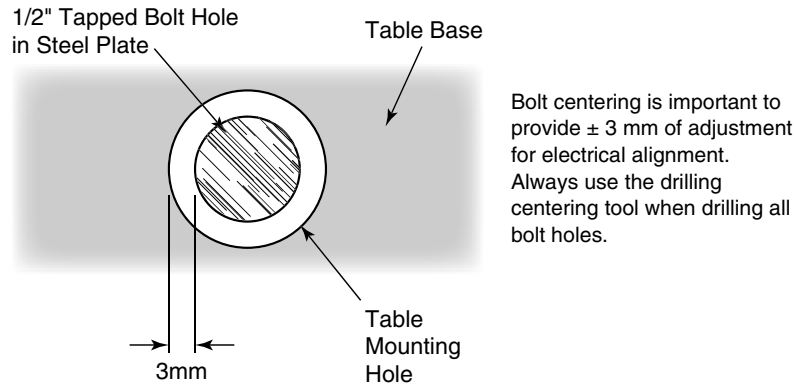

Figure 1-49 Center tapped holes under mounting holes in table base
- 3.) Fixed site Installations must be centered under mounting holes in table base, with 3 mm (0.12 in.) of space visible all of the way around the tapped bolt hole. Figure 1-49.